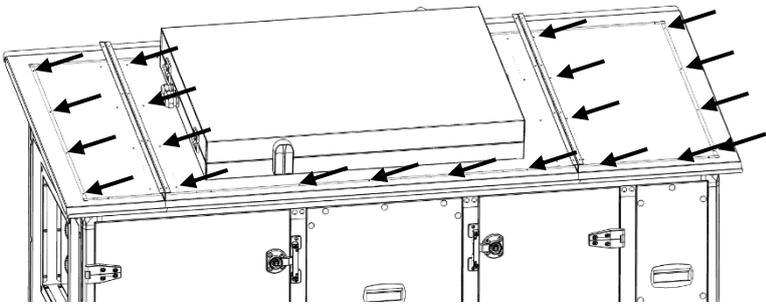

Fig. 124
4. Place the weather roof top sheets to top of the assembly, and screw in the opened holes (Fig. 124)